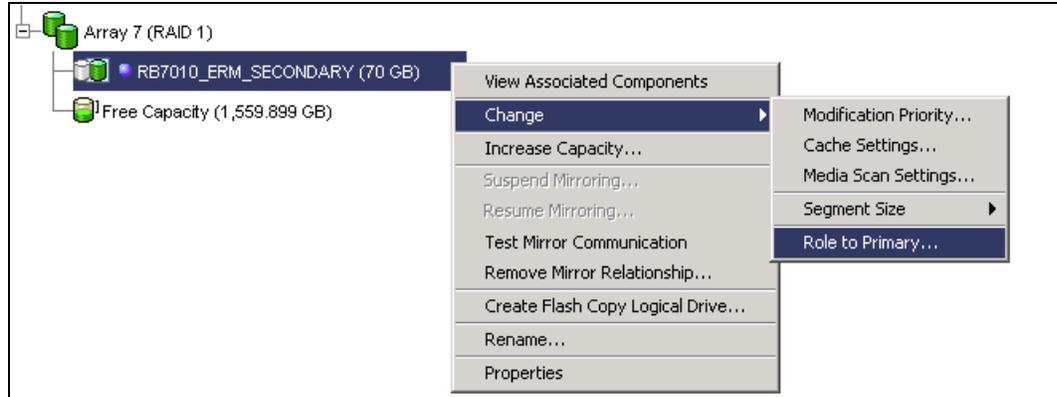

Figure 8-62 Change role: Secondary to primary
1. Select the secondary logical drive in the logical view, then select either the **Logical Drive** → **Remote Mirroring** → **Change** → **Role to Primary** pull-down menu option or **Change** → **Role to Primary** from the right-mouse pop-up menu (Figure 8-62).